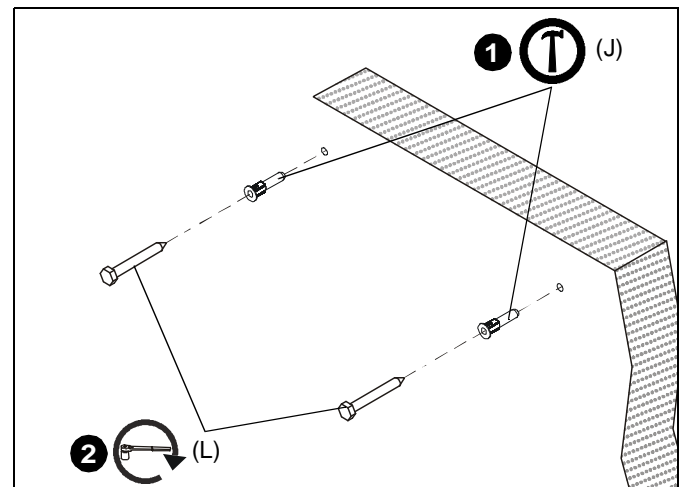

Figure 22
1. Install one UX10 x 60 anchor (J) into each pilot hole using a hammer, making sure that the anchor is flush with the wall. (See Figure 22)
2. Use one 5/16" x 2-1/2" lag bolt (L) through product into each anchor in wall.